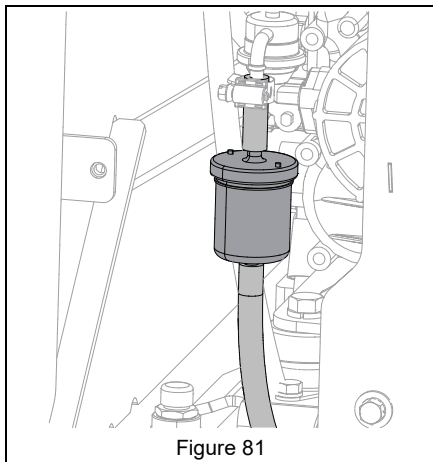

Figure 81
4. Replace filter and verify any loosened clamps are secure. See Figure 81.